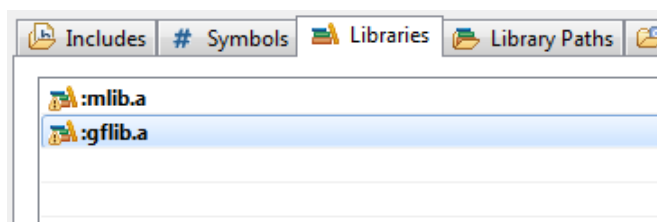

Figure 1-14. Libraries
9. After adding the library paths, add the library files. Click the Libraries tab. See Figure 1-14.
14. Click OK, and you will see the libraries added in the list. See Figure 1-14.